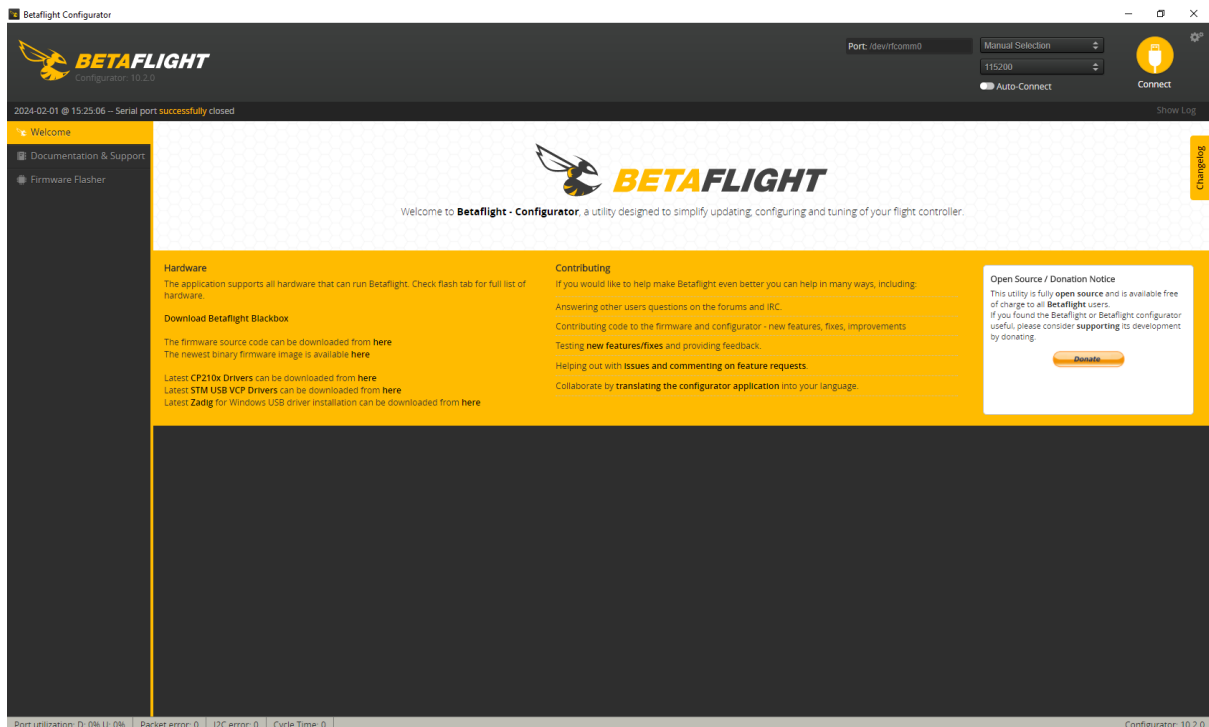

Figure 1 Betaflight main screen
3. If installed correctly you should be able to run Betaflight and be presented with a screen similar to that in Figure 1. Ignore any warnings about the version being out of date.